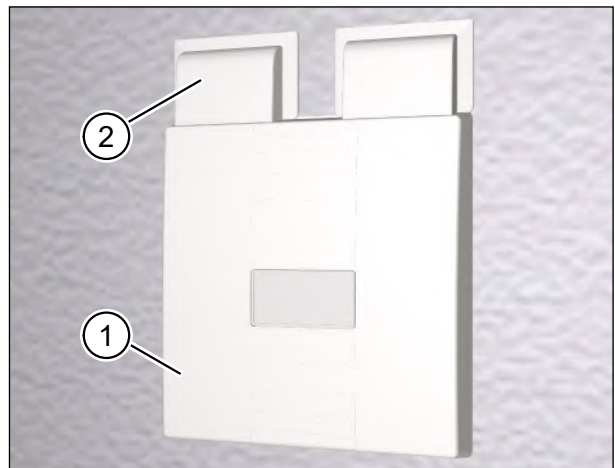

Fig. 38: Ventilation unit installed
- Installation of the ventilation unit (item 1 in Fig. 38) in the installation kit is described in a separate installation manual (see “1.8 Supplementary documents” on page 6).
- Installation of the duct adapters (item 2 in Fig. 38) is described in a separate installation manual (see “1.8 Supplementary documents” on page 6).